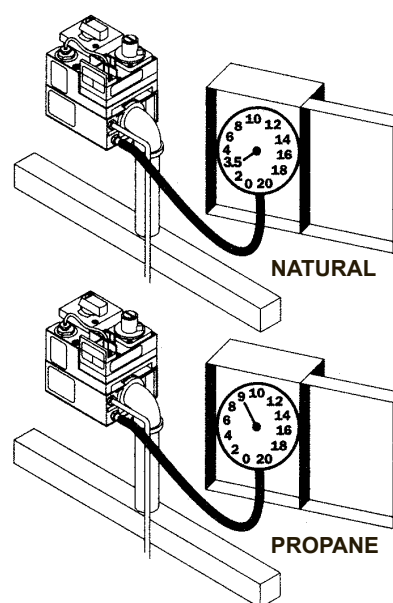

Figure 35: Gas Pressure Reading
6. Take pressure reading with the heater running. Propane gas must have 9" W.C. (water column pressure). Natural gas must have 3.5" W.C. See Figure 35.